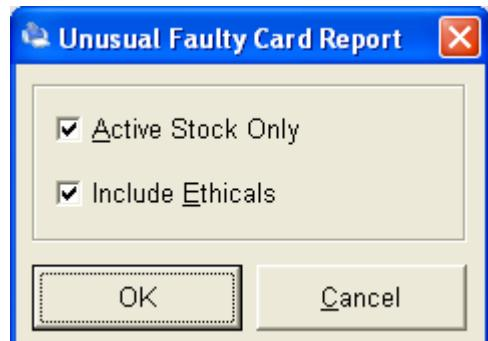

Figure 348
2. Once entering into 'Unusual Cards' you will be prompted with the 'Unusual Faulty Card Report' filter (as shown in Figure 348).